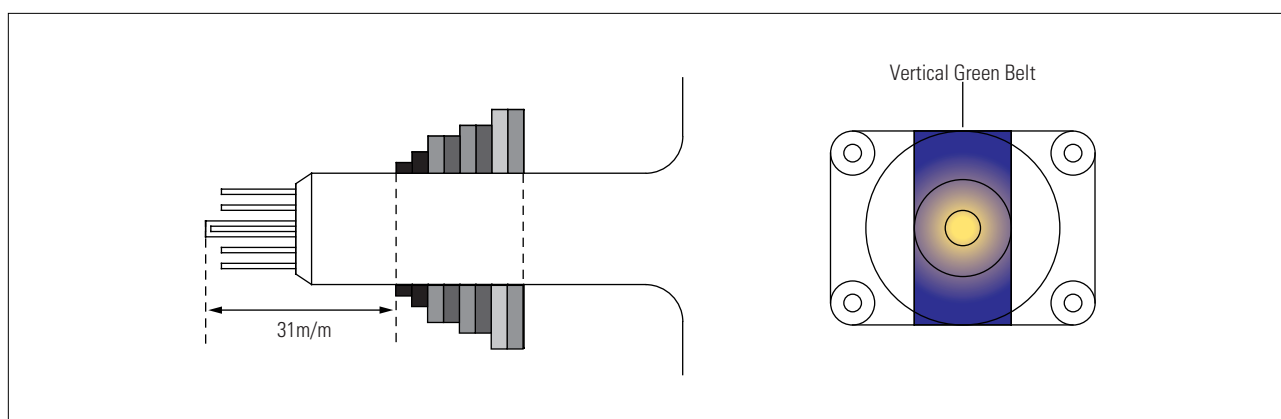

Fig. 4-3 Center Convergence Adjustment
7. Loosen the clamp screw holding the yoke. Slide the yoke backward or forward to provide vertical green belt. (Fig. 4-3).